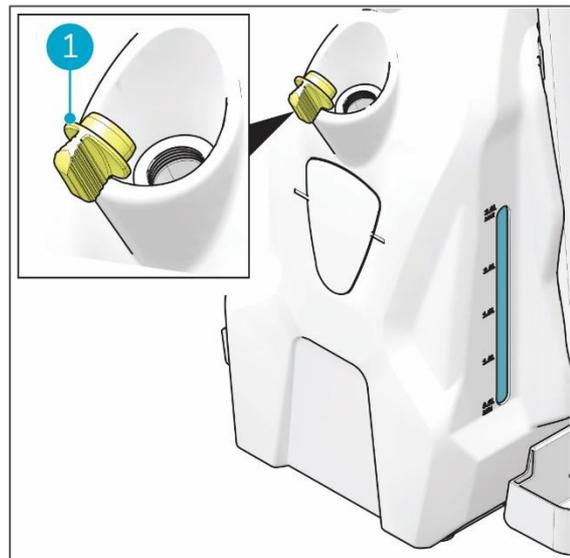

Figure 26
4. Remove the yellow stopper from the fluid tank (Figure 26, pos 1).
7. Replace the yellow stopper (Figure 26, pos 1).